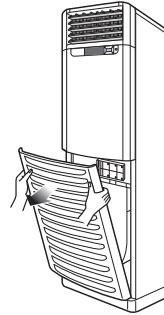

Fig 1
- Remember that the radius (R) should not exceed 70 mm (Refer to Fig. 1)
(Fig. 1)
- 1 Open the inlet grille manually. (Fig 1)